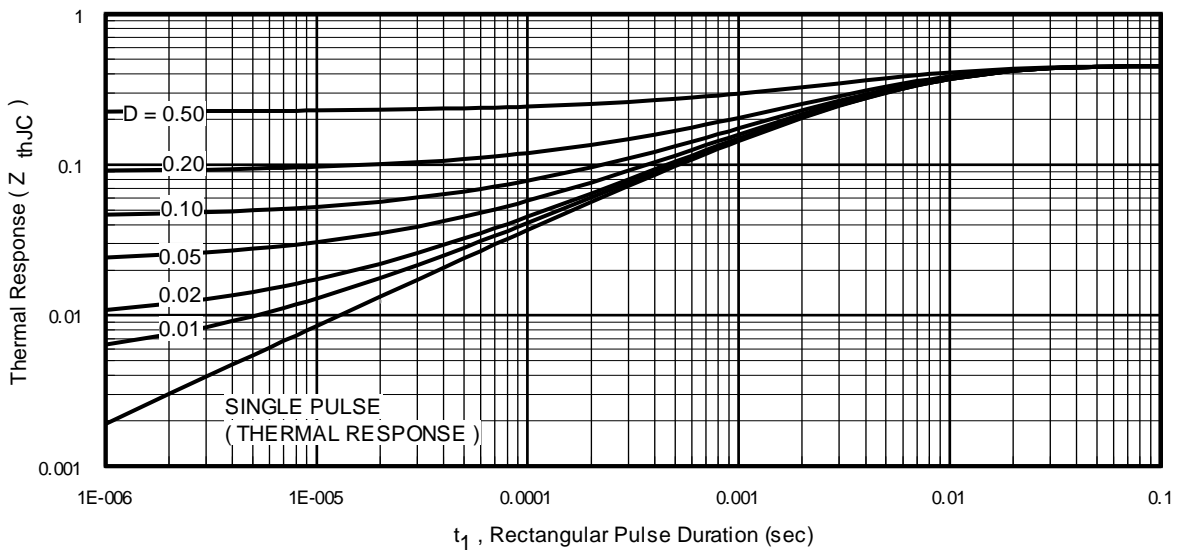
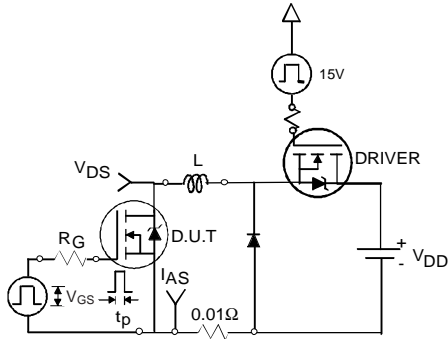

Fig 11. Maximum Effective Transient Thermal Impedance, Junction-to-Case
Fig 12a. Unclamped Inductive Test Circuit
- ① Repetitive rating; pulse width limited by max. junction temperature. (See fig. 11).
- ② Limited by T_{Jmax} , starting $T_J = 25^\circ\text{C}$, $L=0.24\text{mH}, R_G = 25\Omega, I_{AS} = 75A, V_{GS} = 10V$. Part not recommended for use above this value.
- ③ $I_{SD} \leq 75A, di/dt \leq 220A/\mu s, V_{DD} \leq V_{(BR)DSS}, T_J \leq 175^\circ\text{C}$.
- ④ Pulse width $\leq 1.0\text{ms}$; duty cycle $\leq 2\%$.
- ⑤ $C_{oss\text{ eff.}}$ is a fixed capacitance that gives the same charging time as C_{oss} while V_{DS} is rising from 0 to 80% V_{DSS} .
- ⑥ Limited by T_{Jmax} , see Fig.12a, 12b, 15, 16 for typical repetitive avalanche performance.
- ⑦ This value determined from sample failure population. 100% tested to this value in production.
- ⑧ This is applied to D²Pak, when mounted on 1" square PCB (FR-4 or G-10 Material). For recommended footprint and soldering techniques refer to application note #AN-994.
- ⑨ Max $R_{DS(on)}$ for D²Pak and TO-262 (SMD) devices.
3. Equation below based on circuit and waveforms shown in Figures 12a, 12b.
$Z_{thJC}(D, t_{av})$ = Transient thermal resistance, see figure 11)